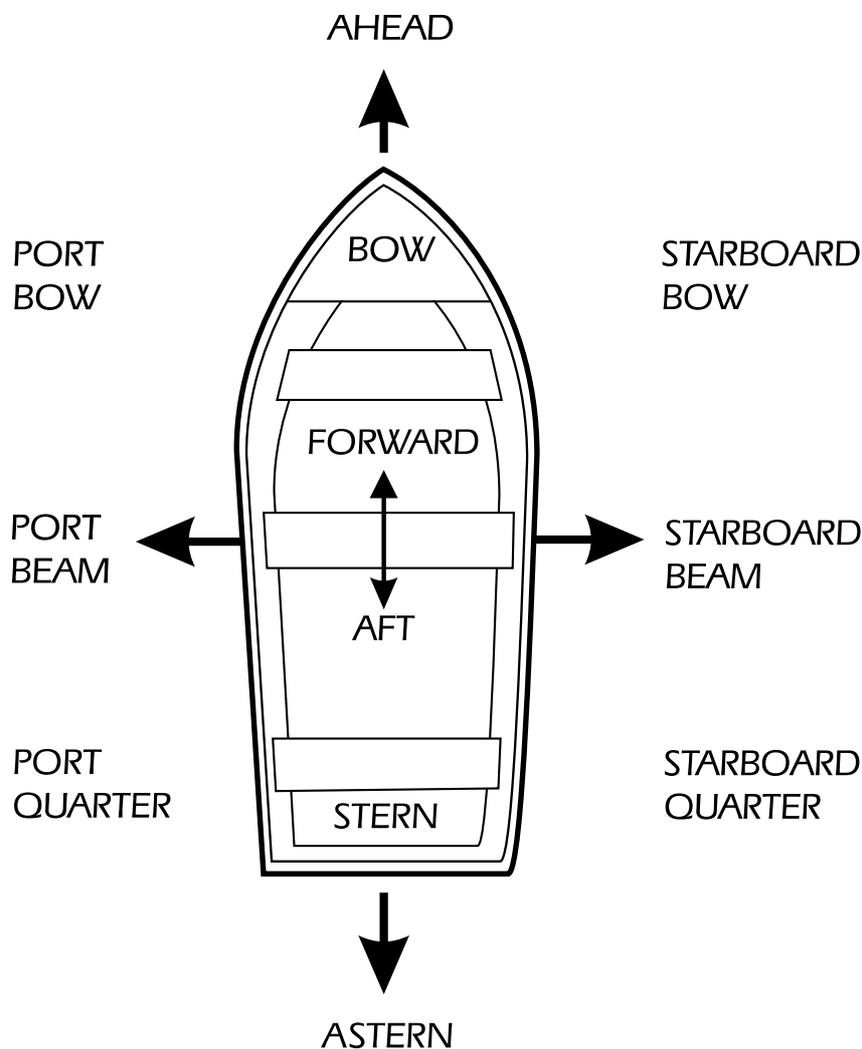

Figure 5:4—Terms of Boat Direction and Location
- (1) **Abeam**—At right angles to the fore and aft line of a vessel.
- (2) **Abreast**—Level with.
- (3) **Alongside**—Side by side.
- (4) **Bow**—The front of the vessel. (See Figure 5:4).
- (5) **Port**—The left hand side of a vessel looking towards the bow. (See Figure 5:4).
- (6) **Quarter**—The area between abeam and astern. (See Figure 5:5).
- (7) **Starboard**—The right hand side of a vessel looking towards the bow. (See Figure 5:4).
- (8) **Stern**—The rear or back end of a vessel. (See Figure 5:4).